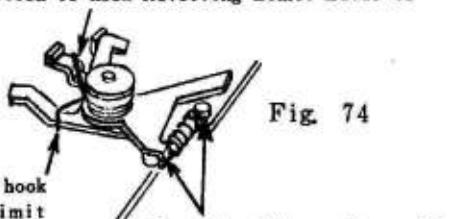

Fig. 74
- Install the Revolving Release Lever Spring (1AA31030) and attach the both ends with an adhesive (cemedine 551). (See Fig. 74)
- Install the Revolving Limit Lever Spring (1AA30920). (See Fig. 74)